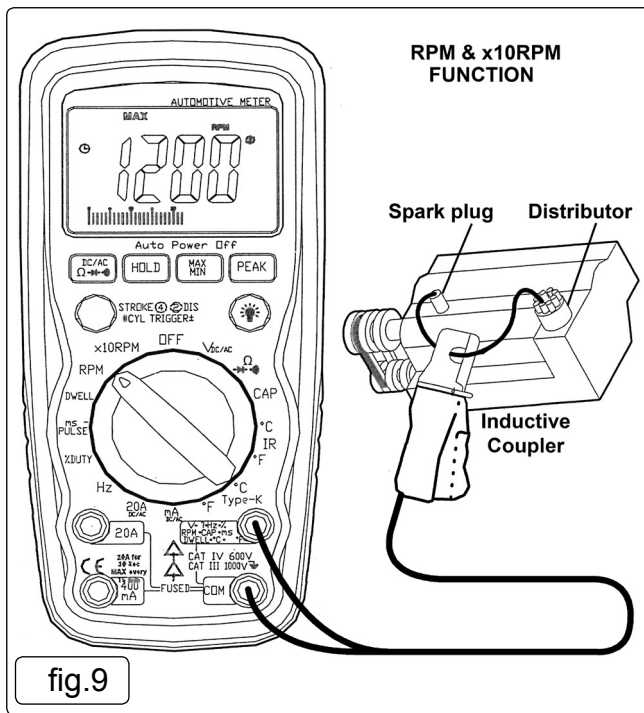

fig.9
**6.12. RPM and x10RPM (See fig.9)**